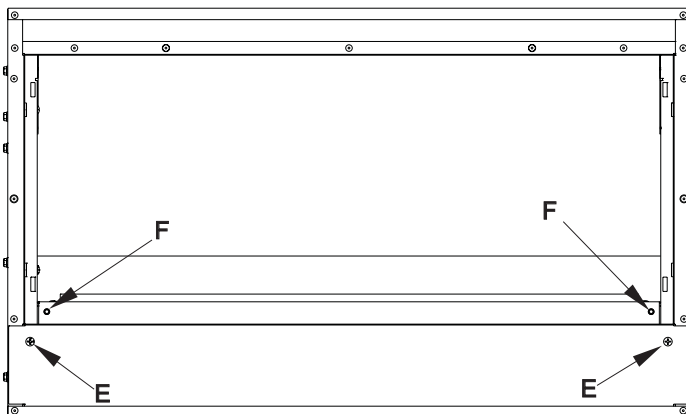

Figure 24
- Remove screws at "E". Remove the bottom panel by lifting and set aside in a safe location. See Figure 24.
- Remove screws at "F". Remove burner assembly and set aside in a safe location. See Figure 24.
16. Place burner assembly inside fireplace and replace screws removed earlier ("F" in **Figure 24**).
23. Replace bottom panel and re-insert two black, truss-head screws ("E" in **Figure 24**).